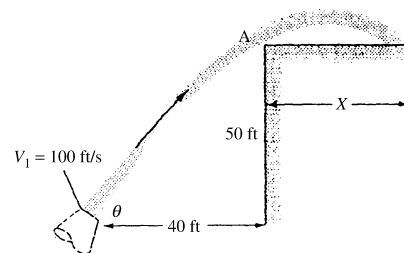

Fig. P3.152
3.152 A free liquid jet, as in Fig. P3.152, has constant ambient pressure and small losses; hence from Bernoulli's equation $z + V^2/(2g)$ is constant along the jet. For the fire nozzle in the figure, what are (a) the minimum and (b) the maximum values of θ for which the water jet will clear the corner of the building? For which case will the jet velocity be higher when it strikes the roof of the building?